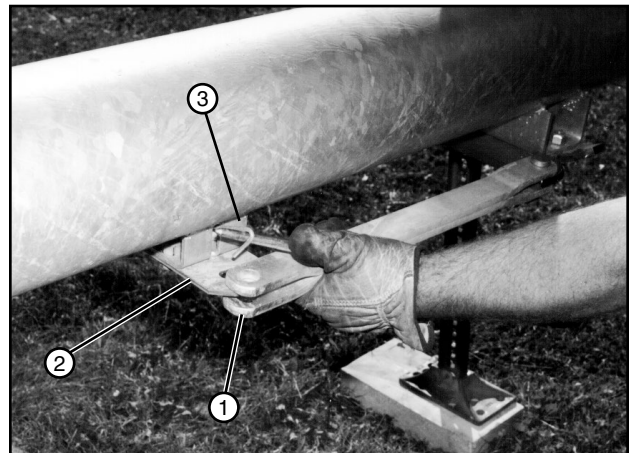

Figure 63-2 1. Tow Link Bar
4. Rotate the tow link bar into the tow link carrier until the carrier spring latches into the hole in the tow link bar. See figure 63-2.